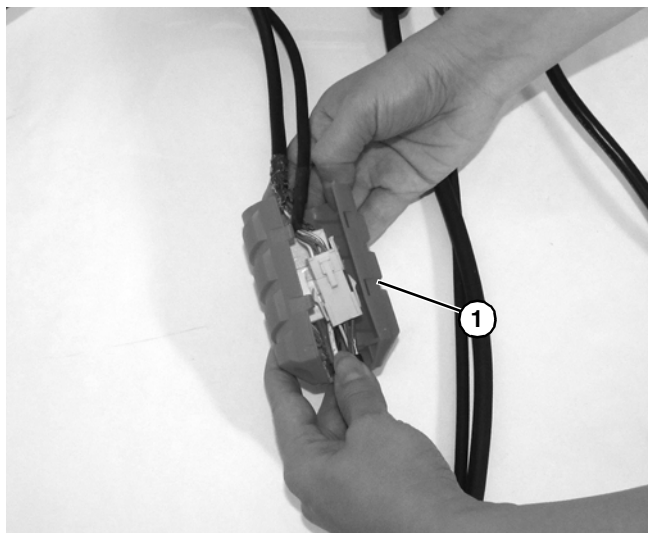

Figure 18
3. Open inner cord cover (Figure 18, item 1).